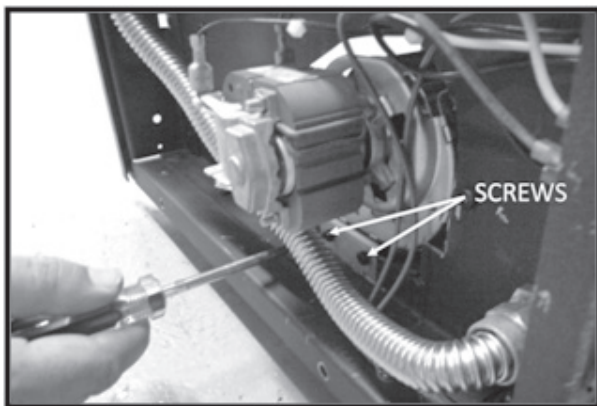

Figure 33: Fan install-removal.
3. Remove the two (2) screws from the panel (Figure 33) and pull the fan out of unit. You will have to disconnect the wires from the fan before you can remove it completely.
2. Insert both screws into the fan access panel to attach the fan to the unit (Figure 33).